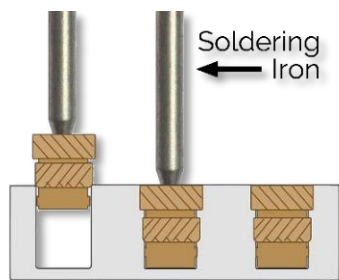

Figure 26
The two last steps we must complete are to properly position and connect the USB cable to the microcontroller as well as insert the (4) larger M3 threaded & knurled brass insert nuts which will help secure our project case cover. Let's first install the brass nuts by loosely inserting them in each of the four holes (pay attention to the orientation as shown in figure 26). With the tip of your hot soldering iron in a perpendicular position to the hole of the nut, apply slight downwards pressure until each of the nuts are flush inside the holes as illustrated in figure 26 & 27.